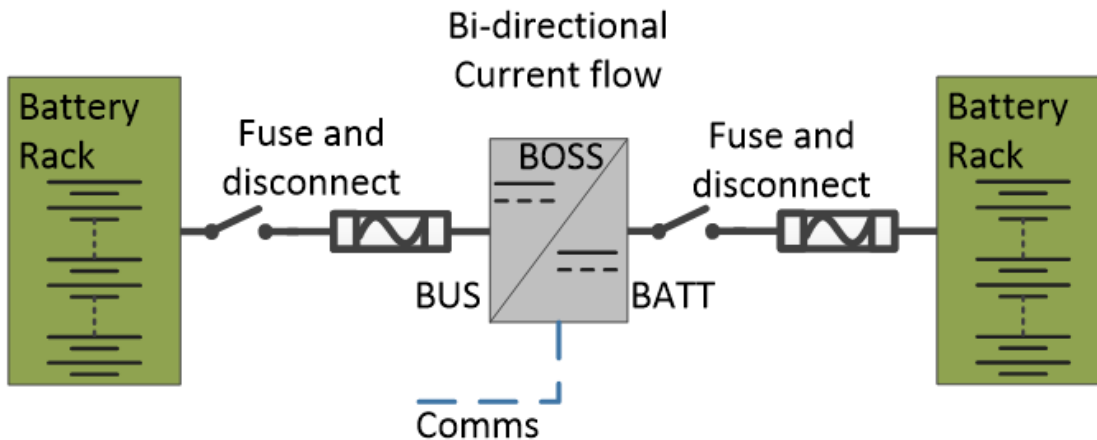

Figure 36: Charging and discharging of two battery racks using the BOSS
See the diagram in Figure 36 for a basic setup and follow the instructions below for the test. Currently Alencon does not have the setup yet to perform battery charge-discharge test.
- Connect the batteries to the both sides of the BOSS shown in Figure 36.